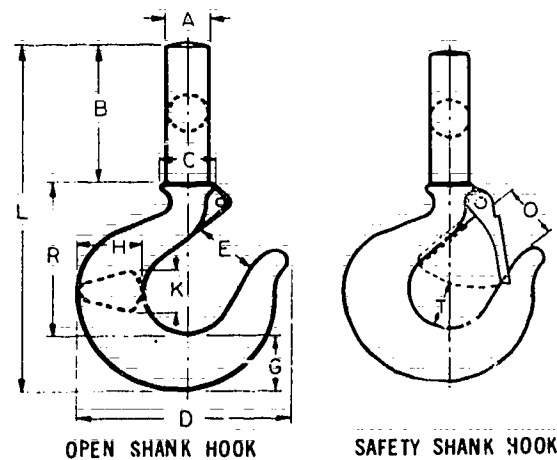

Figure 7-82. Shank Hooks
4. **Shank Hooks** shall be considered to be of equal strength characteristics to eye hooks where the thickness at "G" is the same on both hooks. Open and Safety Shank Hooks are illustrated in Figure 7-82. Hooks must be inspected regularly with particular attention to load carrying sections (e.g., dimension G) and stress related areas (dimension E). Any hook showing a loss of material of 20% or more of the original thickness at any section must be destroyed and replaced. Similarly **any** increase in the throat opening E beyond stated specification indicates overstress, and the hook must be destroyed. Table 7-9 specifies important dimensions for eye type